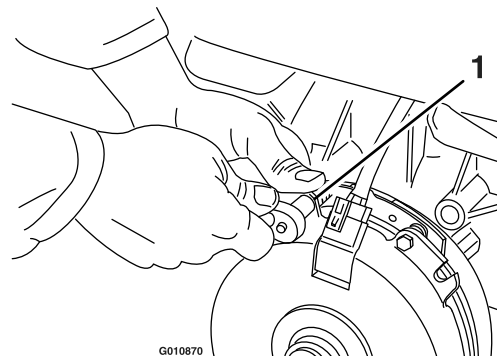

Figure 71
- A. Loosen both brake-mounting bolts 1/2 to 1 full turn as shown in Figure 71.